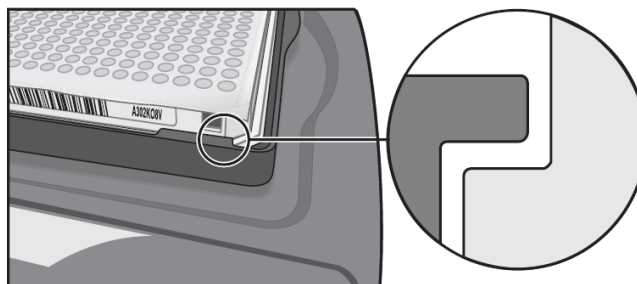

Figure 10 384-well plate inserted into the attachment (showing the tabs securing the plate)
- For 384-well plates—Slightly tilt the plate lengthwise, then insert the front and rear of the plate under the tabs (see Figure 10).